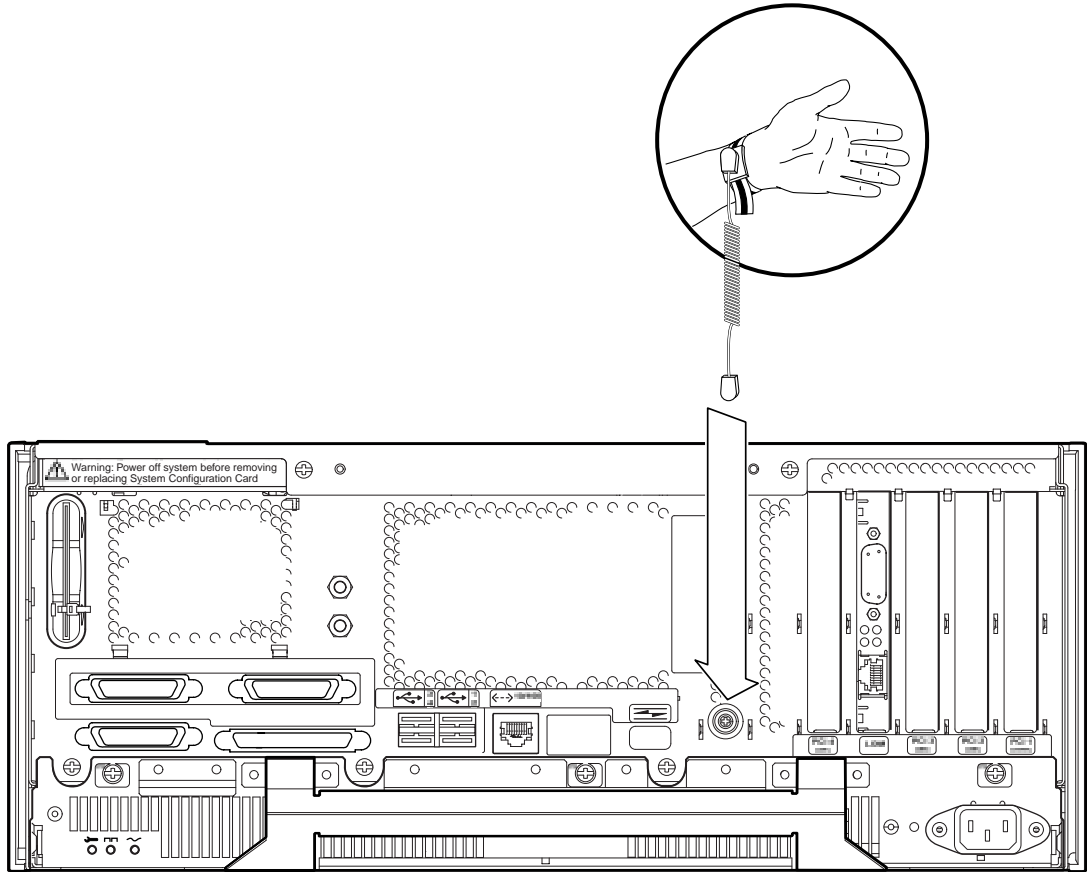
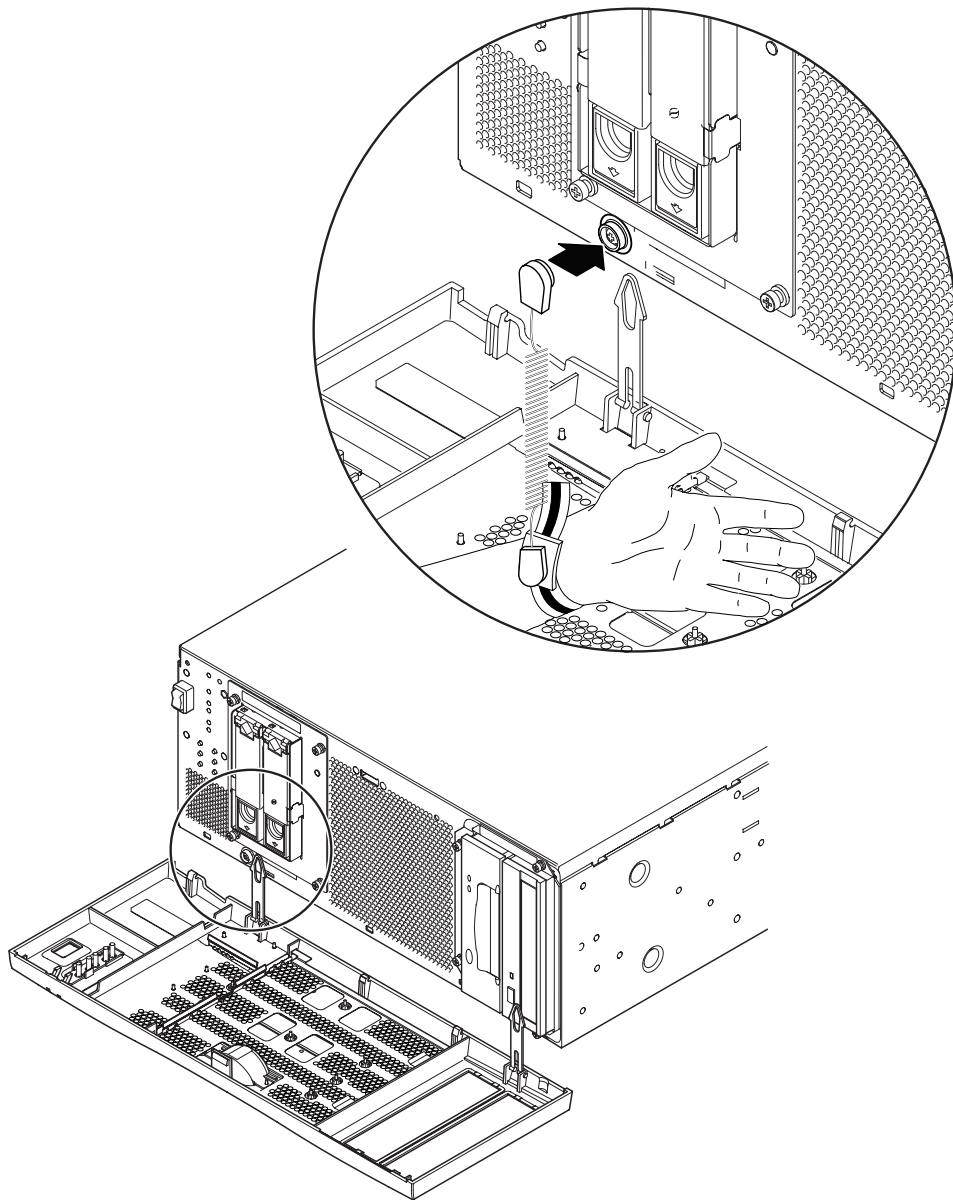

FIGURE 12-1 Attaching the Antistatic Wrist Strap to the Rear of the Chassis
FIGURE 12-2 Attaching the Antistatic Wrist Strap to the Front of the Chassis
- To attach the antistatic wrist strap to the chassis, connect the strap as shown in FIGURE 12-1 or FIGURE 12-2.